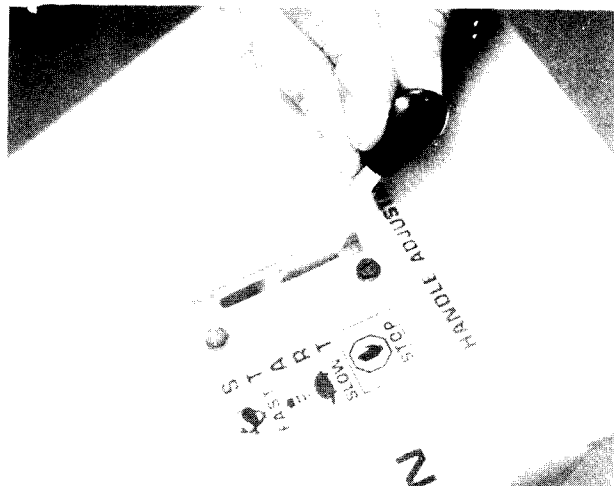

FIGURE 24.
A. Stop—Pull lever back (upward) to stop the engine. See figure 24.